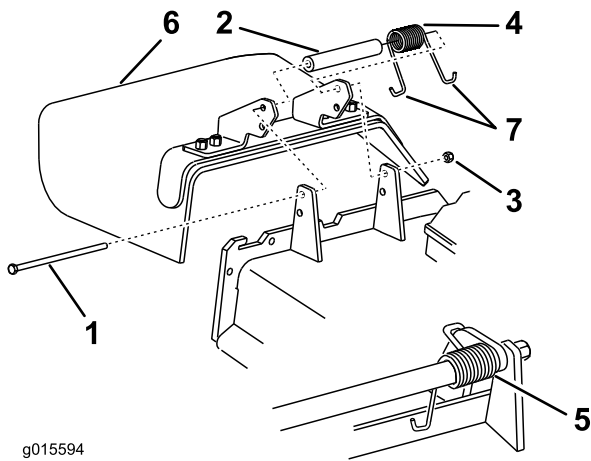

Figure 100
1. Remove the locknut, bolt, spring and spacer holding the deflector to the pivot brackets (Figure 100). Remove damaged or worn grass deflector.
Note: Make sure one **J** end of spring is installed behind deck edge before installing the bolt as shown in Figure 100.
3. Install bolt and nut. Place one **J** hook end of spring around grass deflector (Figure 100).